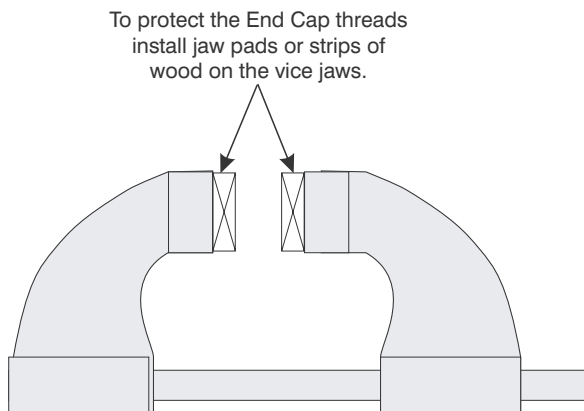

Figure 9-27. Pad the vise jaws to protect the End Cap threads.
1. Before securing the End Cap for assembly, protect the threads of the End Cap (16) by padding the vise jaws or wrapping the threads with a heavy cloth or canvas.
- a. If a vise is used, install the jaw pads. If jaw pads are not available, tape or bind strips of wood to the vise jaws as shown in Figure 9-27.